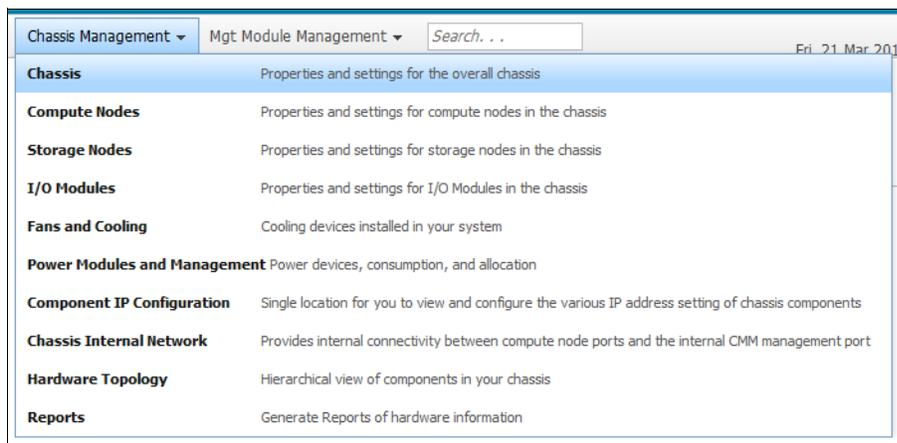

Figure 7-10 CMM Chassis Management drop-down menu
- ▶ Chassis Management, shown in Figure 7-10.